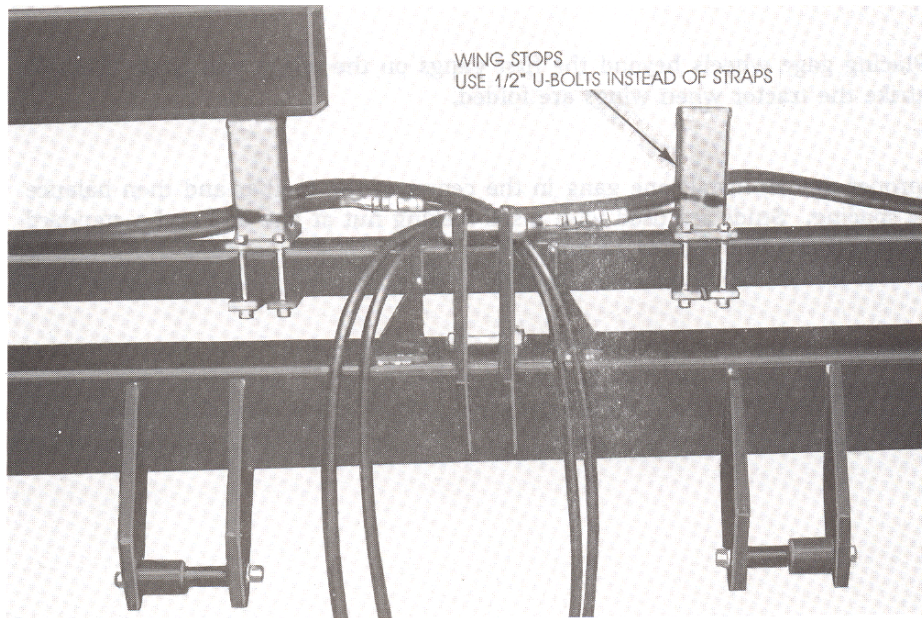

FIGURE 11
6. Mount the wing stops on top of the 3-1/2" square center frame tube using 1/2" u-bolts, lock washers, and nuts. Exact location will vary with row spacing, but stops should be as close as possible to wing ends without hitting gang mounting bolts. See Figure 11.